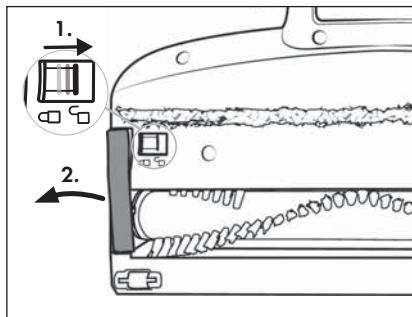

Fig. 29
- 2) Unlock the rotary brush **21** by sliding the rotary brush release **19** with your finger towards the symbol  (open). Remove the rotary brush holder **20** from the floor brush **22** (see Fig. 29).